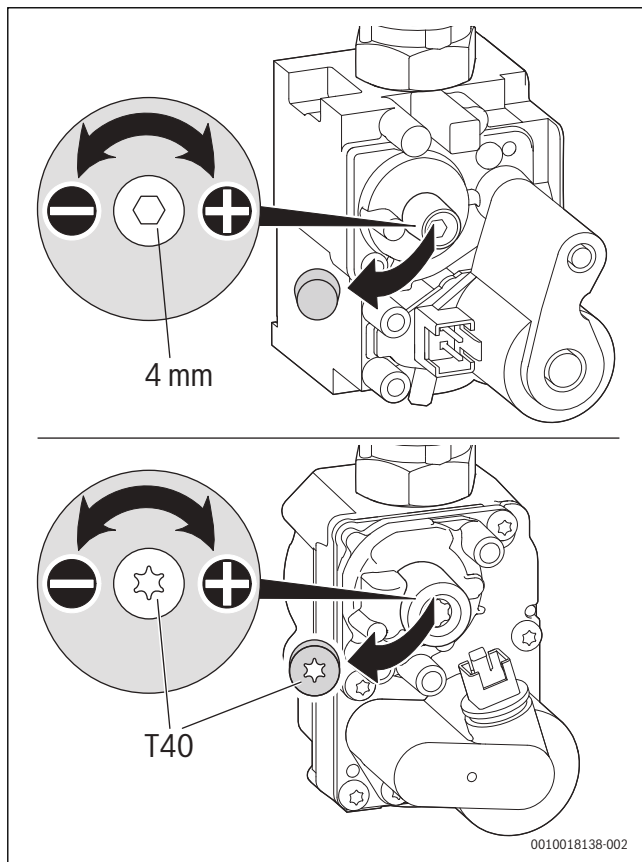

Fig. 96 Setting the CO₂ content (above: SIT valve, below: Honeywell valve)
- ▶ Remove the seal from the adjusting screw of the air/gas ratio control valve (only air/gas ratio control valve is shown in the below Fig. 96) and set the CO₂ content for minimum rated output.